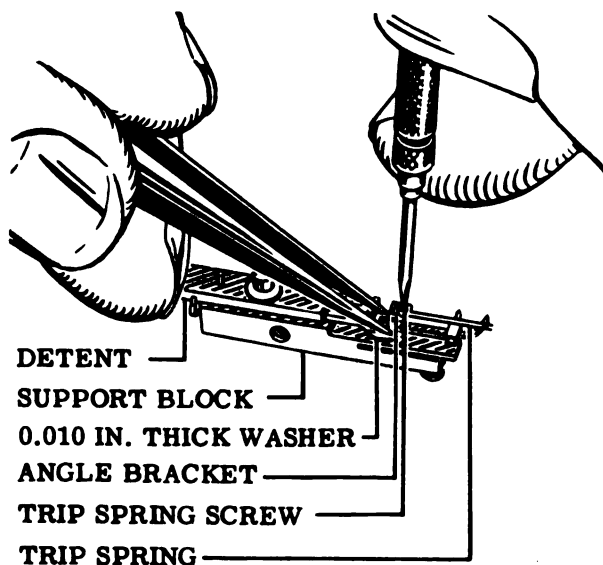

Figure 54
2. Remove detent trip spring screw, releasing trip spring. See Fig. 54. Check trip spring for wear or damage. Refer to Fig. 38. Use new spring, if necessary.
8. Place trip spring screw in the hole of the trip spring. Hold trip spring in position and assemble the screw as shown in Fig. 54. Remove washer.